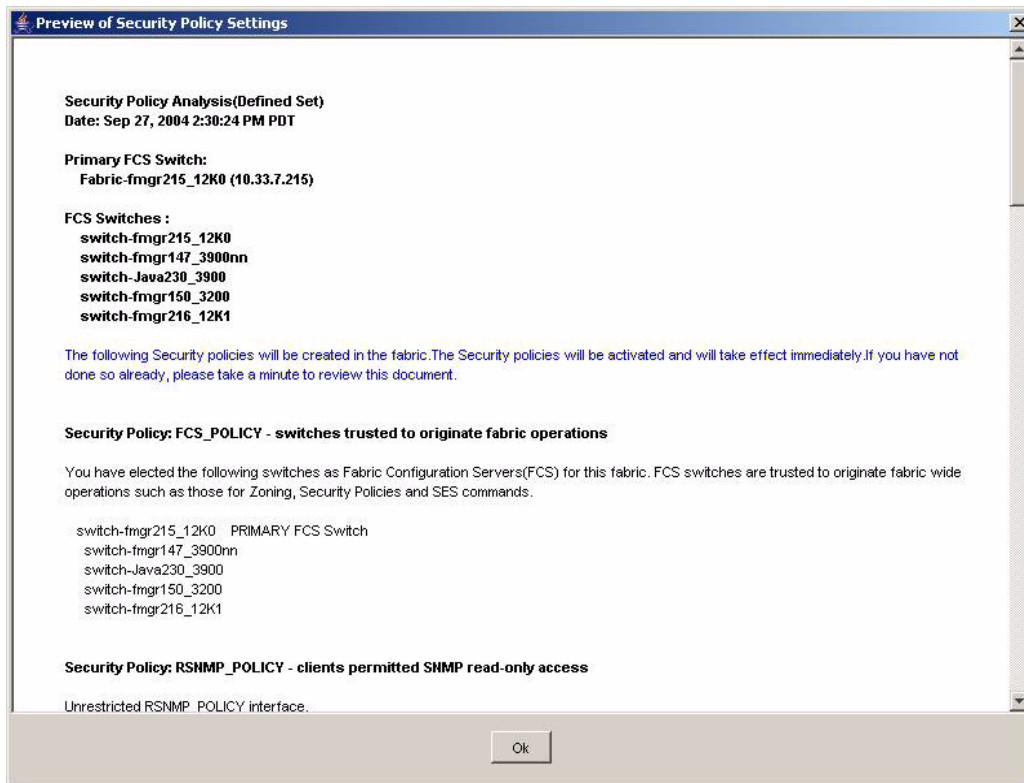

Figure 166 Preview of security policy settings
11. Click **Preview** to see exactly what policies are generated with the selected configurations. A new window is opened, displaying the policy settings that each security level generates (see Figure 166).